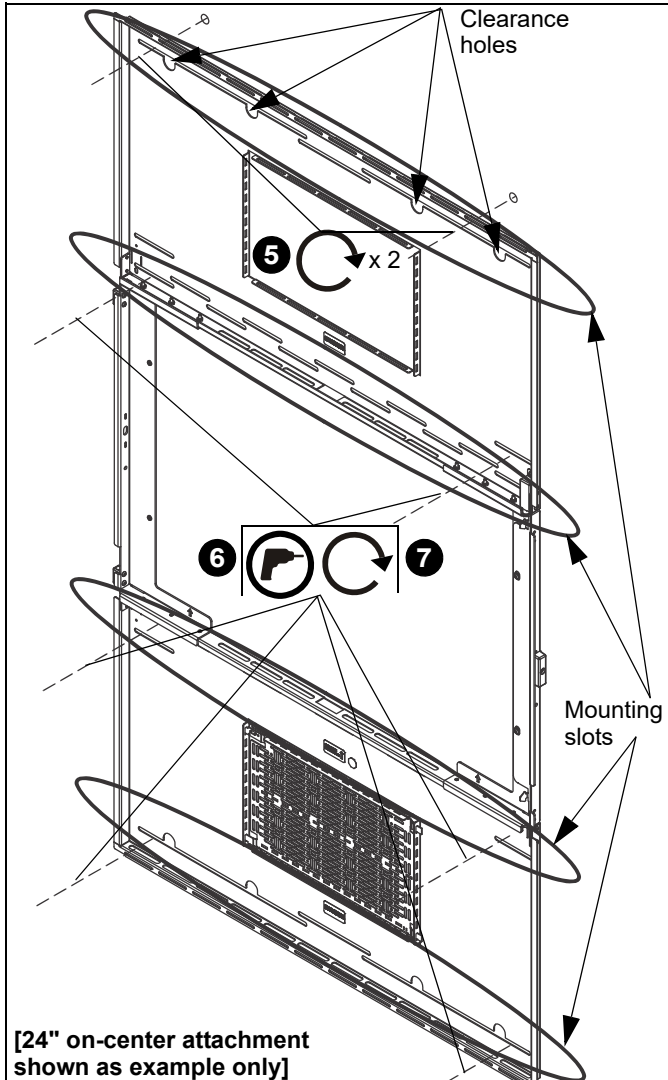
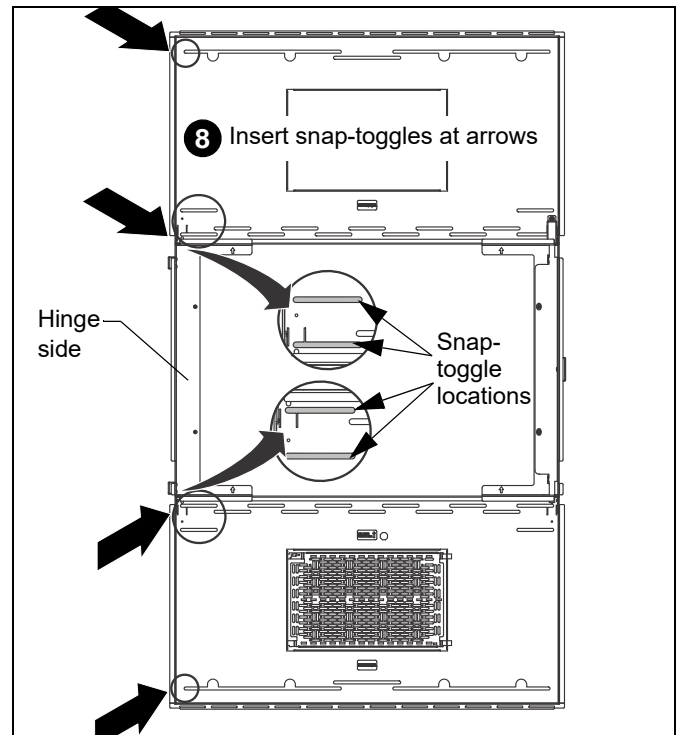

Figure 4
Figure 5
IMPORTANT ! : Attaching the wall bracket requires a minimum of 8 wall fasteners. For installation in a wood or steel stud applications, the snap toggles are required near the edge of the wall bracket hinge side if the hinge side is not fastened to a stud. (See Figure 4) and (See Figure 5)
4. Hang wall bracket, aligning upper mounting slot clearance holes over fasteners and adjust side-to-side for proper location. (See Figure 4)
6. Drill six remaining pilot holes (see Table 1 for size) at attachment locations and follow fastener information (appropriate for wall type) located in Table 1. (See Figure 4)
8. **For Wood and Steel Stud walls:** Insert four snap toggles and related fasteners into hinge side of wall bracket. (See Figure 5)